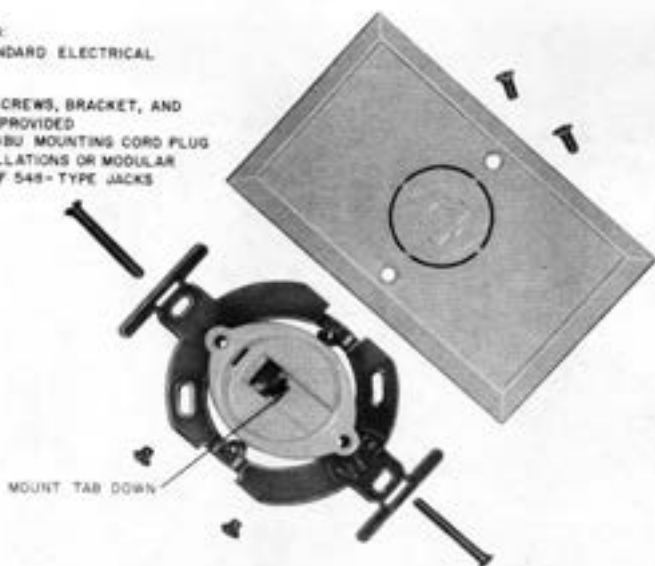

Fig. 2—625B Connecting Block (With Mounting Hardware)
- Block, Connecting, 625B (Fig. 2)
2.04 The **625B** connecting block (Fig. 2) includes the 625F connecting block, 65A faceplate package, and two mounting screws. It is intended for new installations or modular replacement of 548A jacks or 47F connecting blocks. ♦The 625B connecting block is available in ivory (-50) and brown (-54).♦
(b) **Flush-type:** Jack-opening oriented with spring contacts at the top and tab down is shown in Fig. 2, 4, and 10.